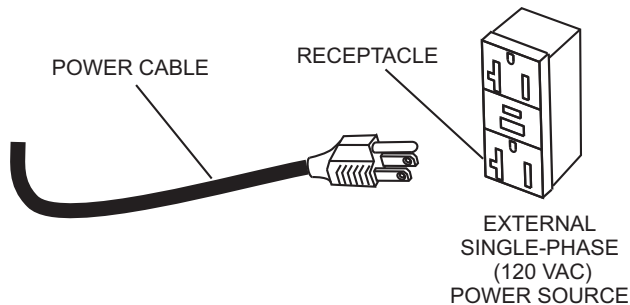

Figure 28. Connecting to 120 VAC Receptacle
3. If using power source other than a portable generator, plug the AC power cord to a 120 VAC, receptacle. See Figure 28.